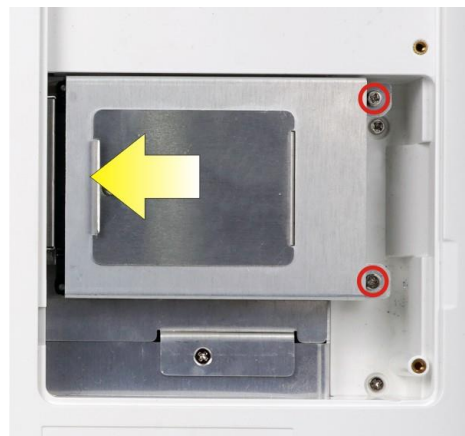

Figure 3-4: HDD Installation
Step 6: Place the HDD and slide it to securely connect to the SATA connector of the POCi-W24C-ULT5 (**Figure 3-4**).
Step 7: Secure the HDD bracket by fastening the two retention screws previously removed (**Figure 3-4**).